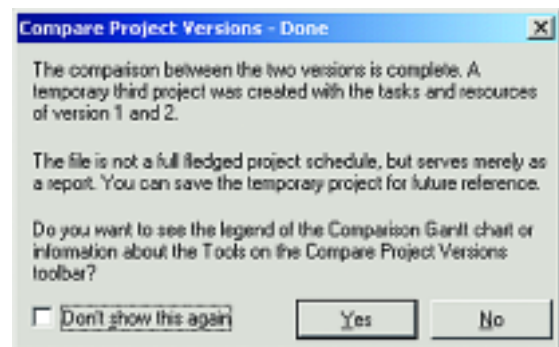

Figure 3: The Done dialog
10. Click the **OK** button and the comparison operation will begin. When it is complete, the **Compare Project Versions — Done** dialog will appear as shown in Figure 3.